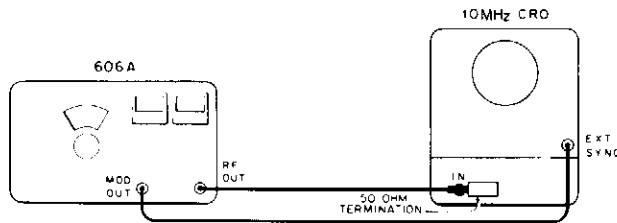

Figure 4-2. Modulation Meter Calibration
- a. Connect the unit to a 10 MHz oscilloscope as shown in **Figure 4-2**.